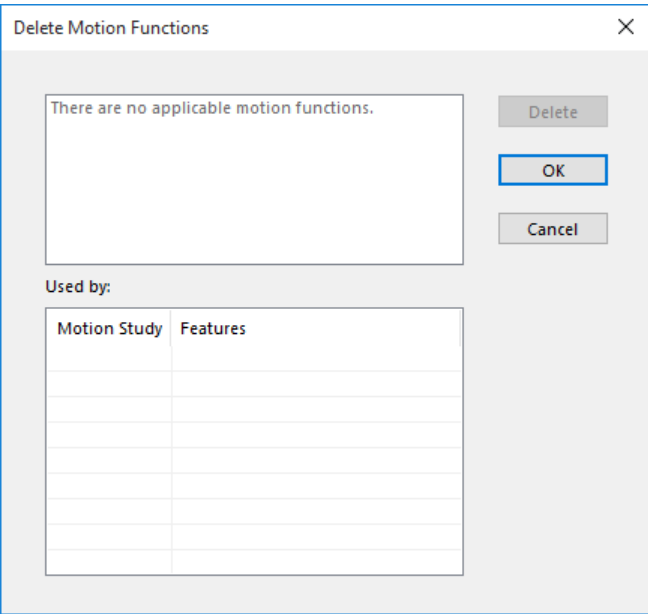

Figure 20-14 The *Delete Motion Functions* dialog box
**Delete Functions:** Using this option, you can delete a motion function of the motor. On selecting this option, the **Delete Motion Functions** dialog box will be displayed, refer to Figure 20-14. Using the options in this dialog box, you can delete the selected functions.